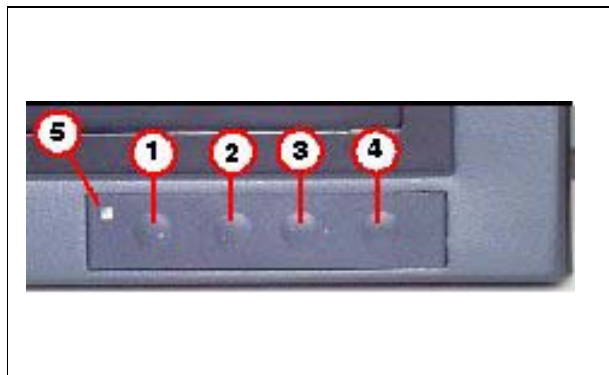

Fig. 1
- 1x button "SET" (Fig. 1/4) , 3x button "UP" (Fig. 1 /2).
- 1x button "UP" (Fig. 1 /2) , 2x button "DOWN" (Fig. 1 /3).
- The OSD menu is displayed by pressing the "Menu" button (Fig. 1/1).
"Menu" button, Fig. 1 /1
The setting values can be subsequently increased by pressing the "UP" button (Fig. 1 /2) or decreased by pressing the "DOWN" button (Fig. 1 /3).
"UP" button, Fig. 1 /2
"DOWN" button, Fig. 1 /3
"SET" button, Fig. 1 /4
- Exit the main menu by pressing the "SET" button (fig. 1/4). The "Quit OSD" menu is displayed.